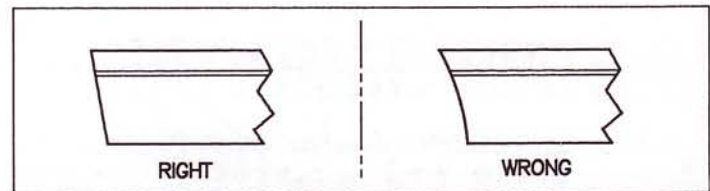

FIG. 4
7. Poor tool life is caused by: (a) lack of adequate side clearance; (b) lack of adequate back clearance; (c) excessive heat resulting from chip restriction; (d) grain paths made by grinding the blade in the wrong direction; (e) wrong rake angle (improper holder); (f) improper blade for the job; (g) blade too narrow; (h) excessive front clearance angle; and (i) front angle ground on radius instead of straight, as illustrated in (Fig. 4).